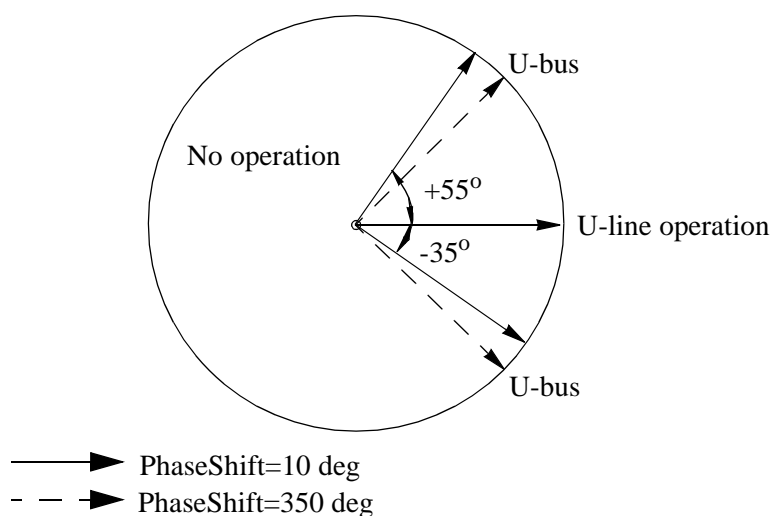

Figure 11: Test of shifted phase difference.
- 4 Apply a *PhaseShift* setting of 10 deg. Change the phase angle between $+55^\circ$ and -35° and verify that the two outputs are activated for phase differences between these values but not for phase differences outside. See Figure 11:.